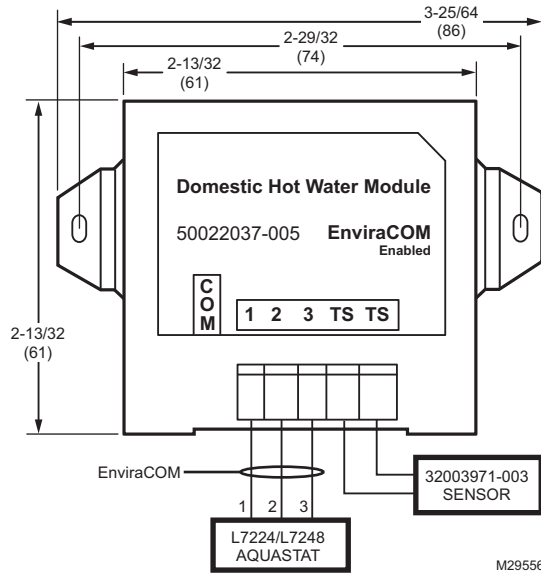

Fig. 2. 50022037-005 Domestic Hot Water (DHW) Module wiring diagram.
1. Wire the EnviraCOM bus terminals 1, 2, and 3 on the DHW Module to the 1, 2, and 3 terminals on the EnviraCOM™ enabled Aquastat, thermostat (if available), or anywhere on the bus where access is available and convenient. (See Fig. 2).